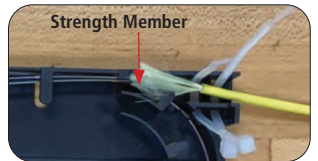

Figure 4
4. Install feeder fiber in splice cassette. Strip fibers to recommended Feeder Strip length per Table 1. Leave approximately 1" (2.5 cm) of strength member. Secure cable tie around fiber and strength member. **(Figure 4)**